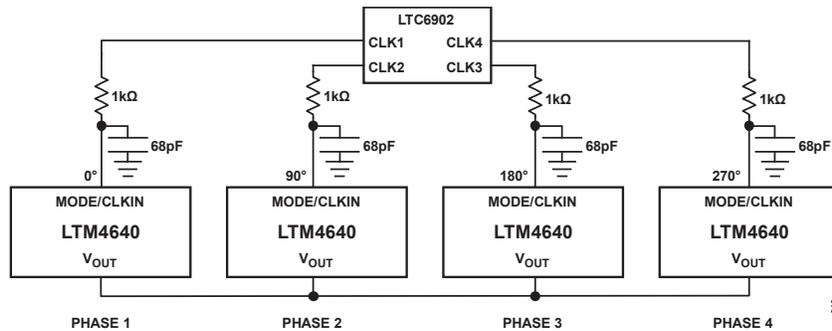

Figure 19. 4-Phase Operation with an External Clock IC and Low-Pass Filters
The CLKOUT signal is connected to the MODE/CLKIN pin of the following LTM4640 stage to line up both the frequency and the phase of the entire system. Connecting the PHMODE pin to INTV_{CC}, GND, or FLOAT generates a phase difference (between CLKIN and CLKOUT) of 180°, 120°, or 90°, respectively, which corresponds to 2-phase, 3-phase, or 4-phase operation. Figure 39 shows a 2-phase design. For a 3-phase or a 4-phase operation to achieve the best performance, it is recommended to use an external clock integrated circuit (IC) to provide the desired phase difference for each LTM4640. An optional low-pass filter is added to each external clock signal before it is fed to the LTM4640. Figure 19 shows a 4-phase design in such a way. Interleaving among more than four phases is not recommended.